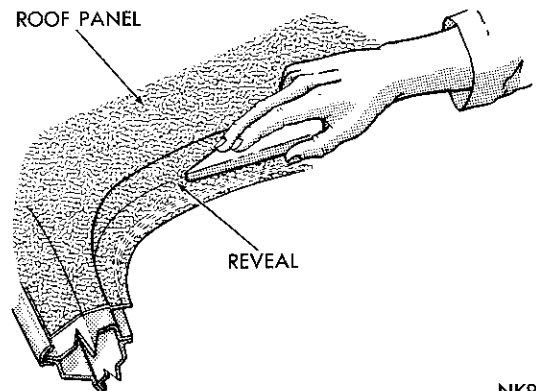

Fig. 173—Positioning Cover in Window Reveals
(7) Repeat steps 5 and 6 for the opposite side.
(8) Using a new paint roller, pressurize the cover to the roof panel, working from the center area out toward the drain troughs.
(9) Press the cover into the windshield and rear window reveals using a dull pointed fiber tool (Fig. 173).